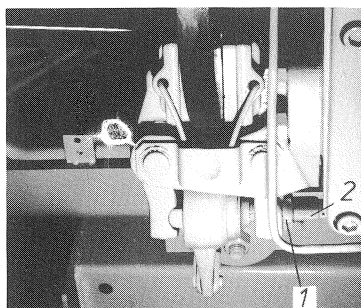

Fig. 58
- In case adjustment at the rotary handle is not possible because the setting distance is too high, the brake tongs is to be roughly adjusted first of all. Loosen counternut (Fig. 58/1) and screw in shaft (Fig. 58/2) of the lever. Lock the shaft with counternut.